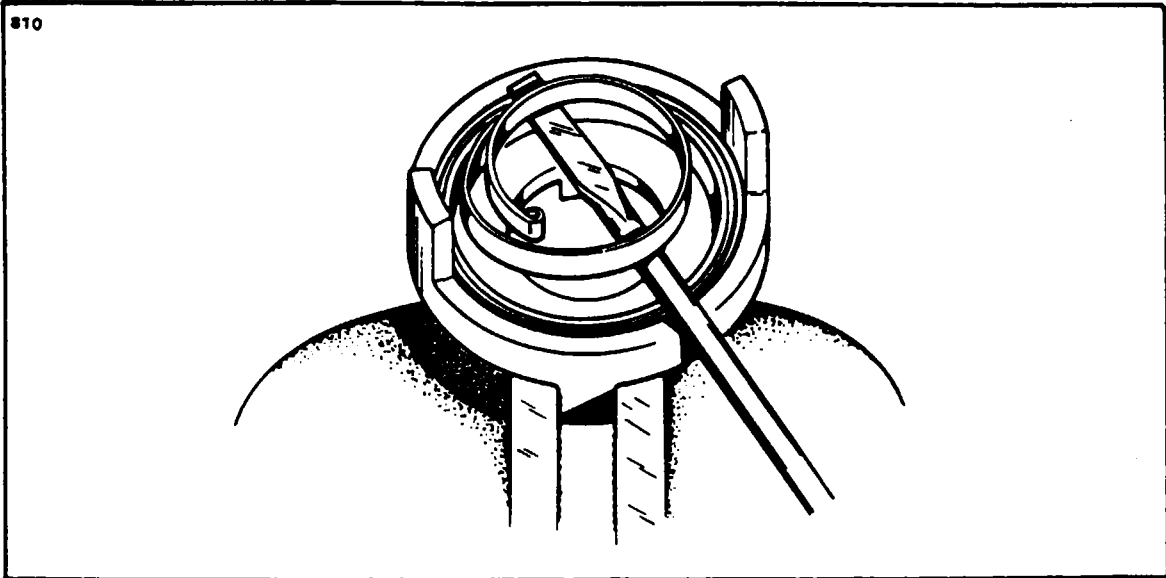

Figure 8-26. Lifting Inner End of Spring
f. Pry up one and one-half turns at the inner end of the spring with a small screwdriver and support in position as shown in Figure 8-26.